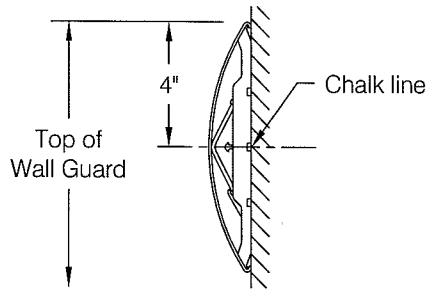

fig 1
Step 1: Determine top of wall guard height and snap a chalk line 4" below to locate centerline of wall guard and to provide a reference line for locating WG-7C Red-E-Clip[®] retainers, see **fig 1**.